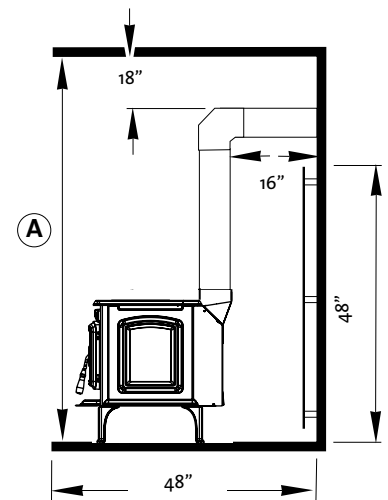

Figure 64. Alcove Ceiling and Double-wall Connector Clearances.
- Min. Ceiling & Connector Clearance, Fig. 64.